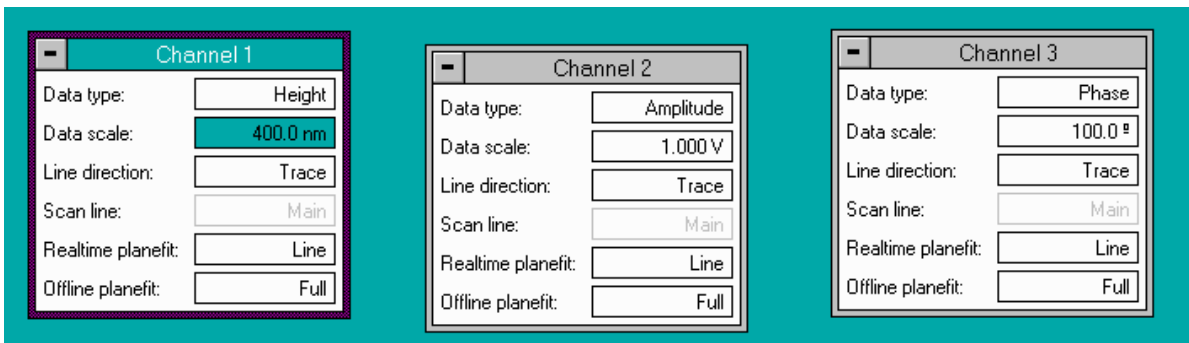

Figure 13: Three Chanel parameters
*Data type: height (Figure 13)*
17) Scan one frame prior to recording the image to adjust scan size, scan speed, and date scale (Figure 13,14 and 17).